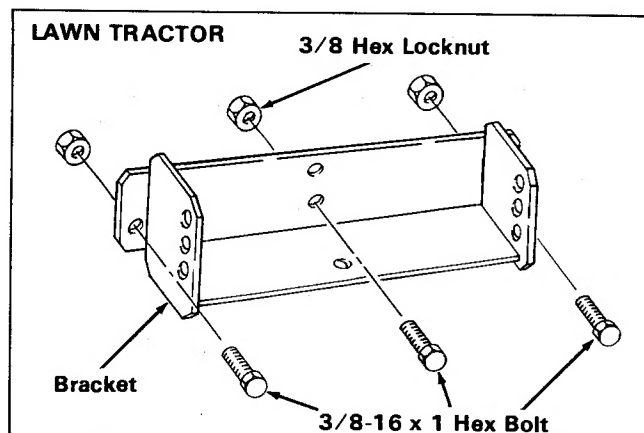

Figure 4.
2. Install the bracket (figure 4) to the back plate through the same holes where the drawbar plate was bolted. Use the three 3/8-16 x 1 hex bolts and nuts.